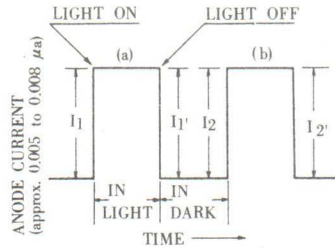
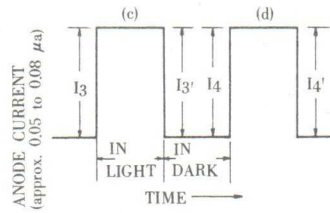

FIG. 2
FIG. 3
* The light intensity was adjusted so as to take the anode current (A) and (B) respectively.
- ③ The light pulse of from about 30 to 40 seconds interval was supplied to the tube as in the Fig.2 and Fig.3.